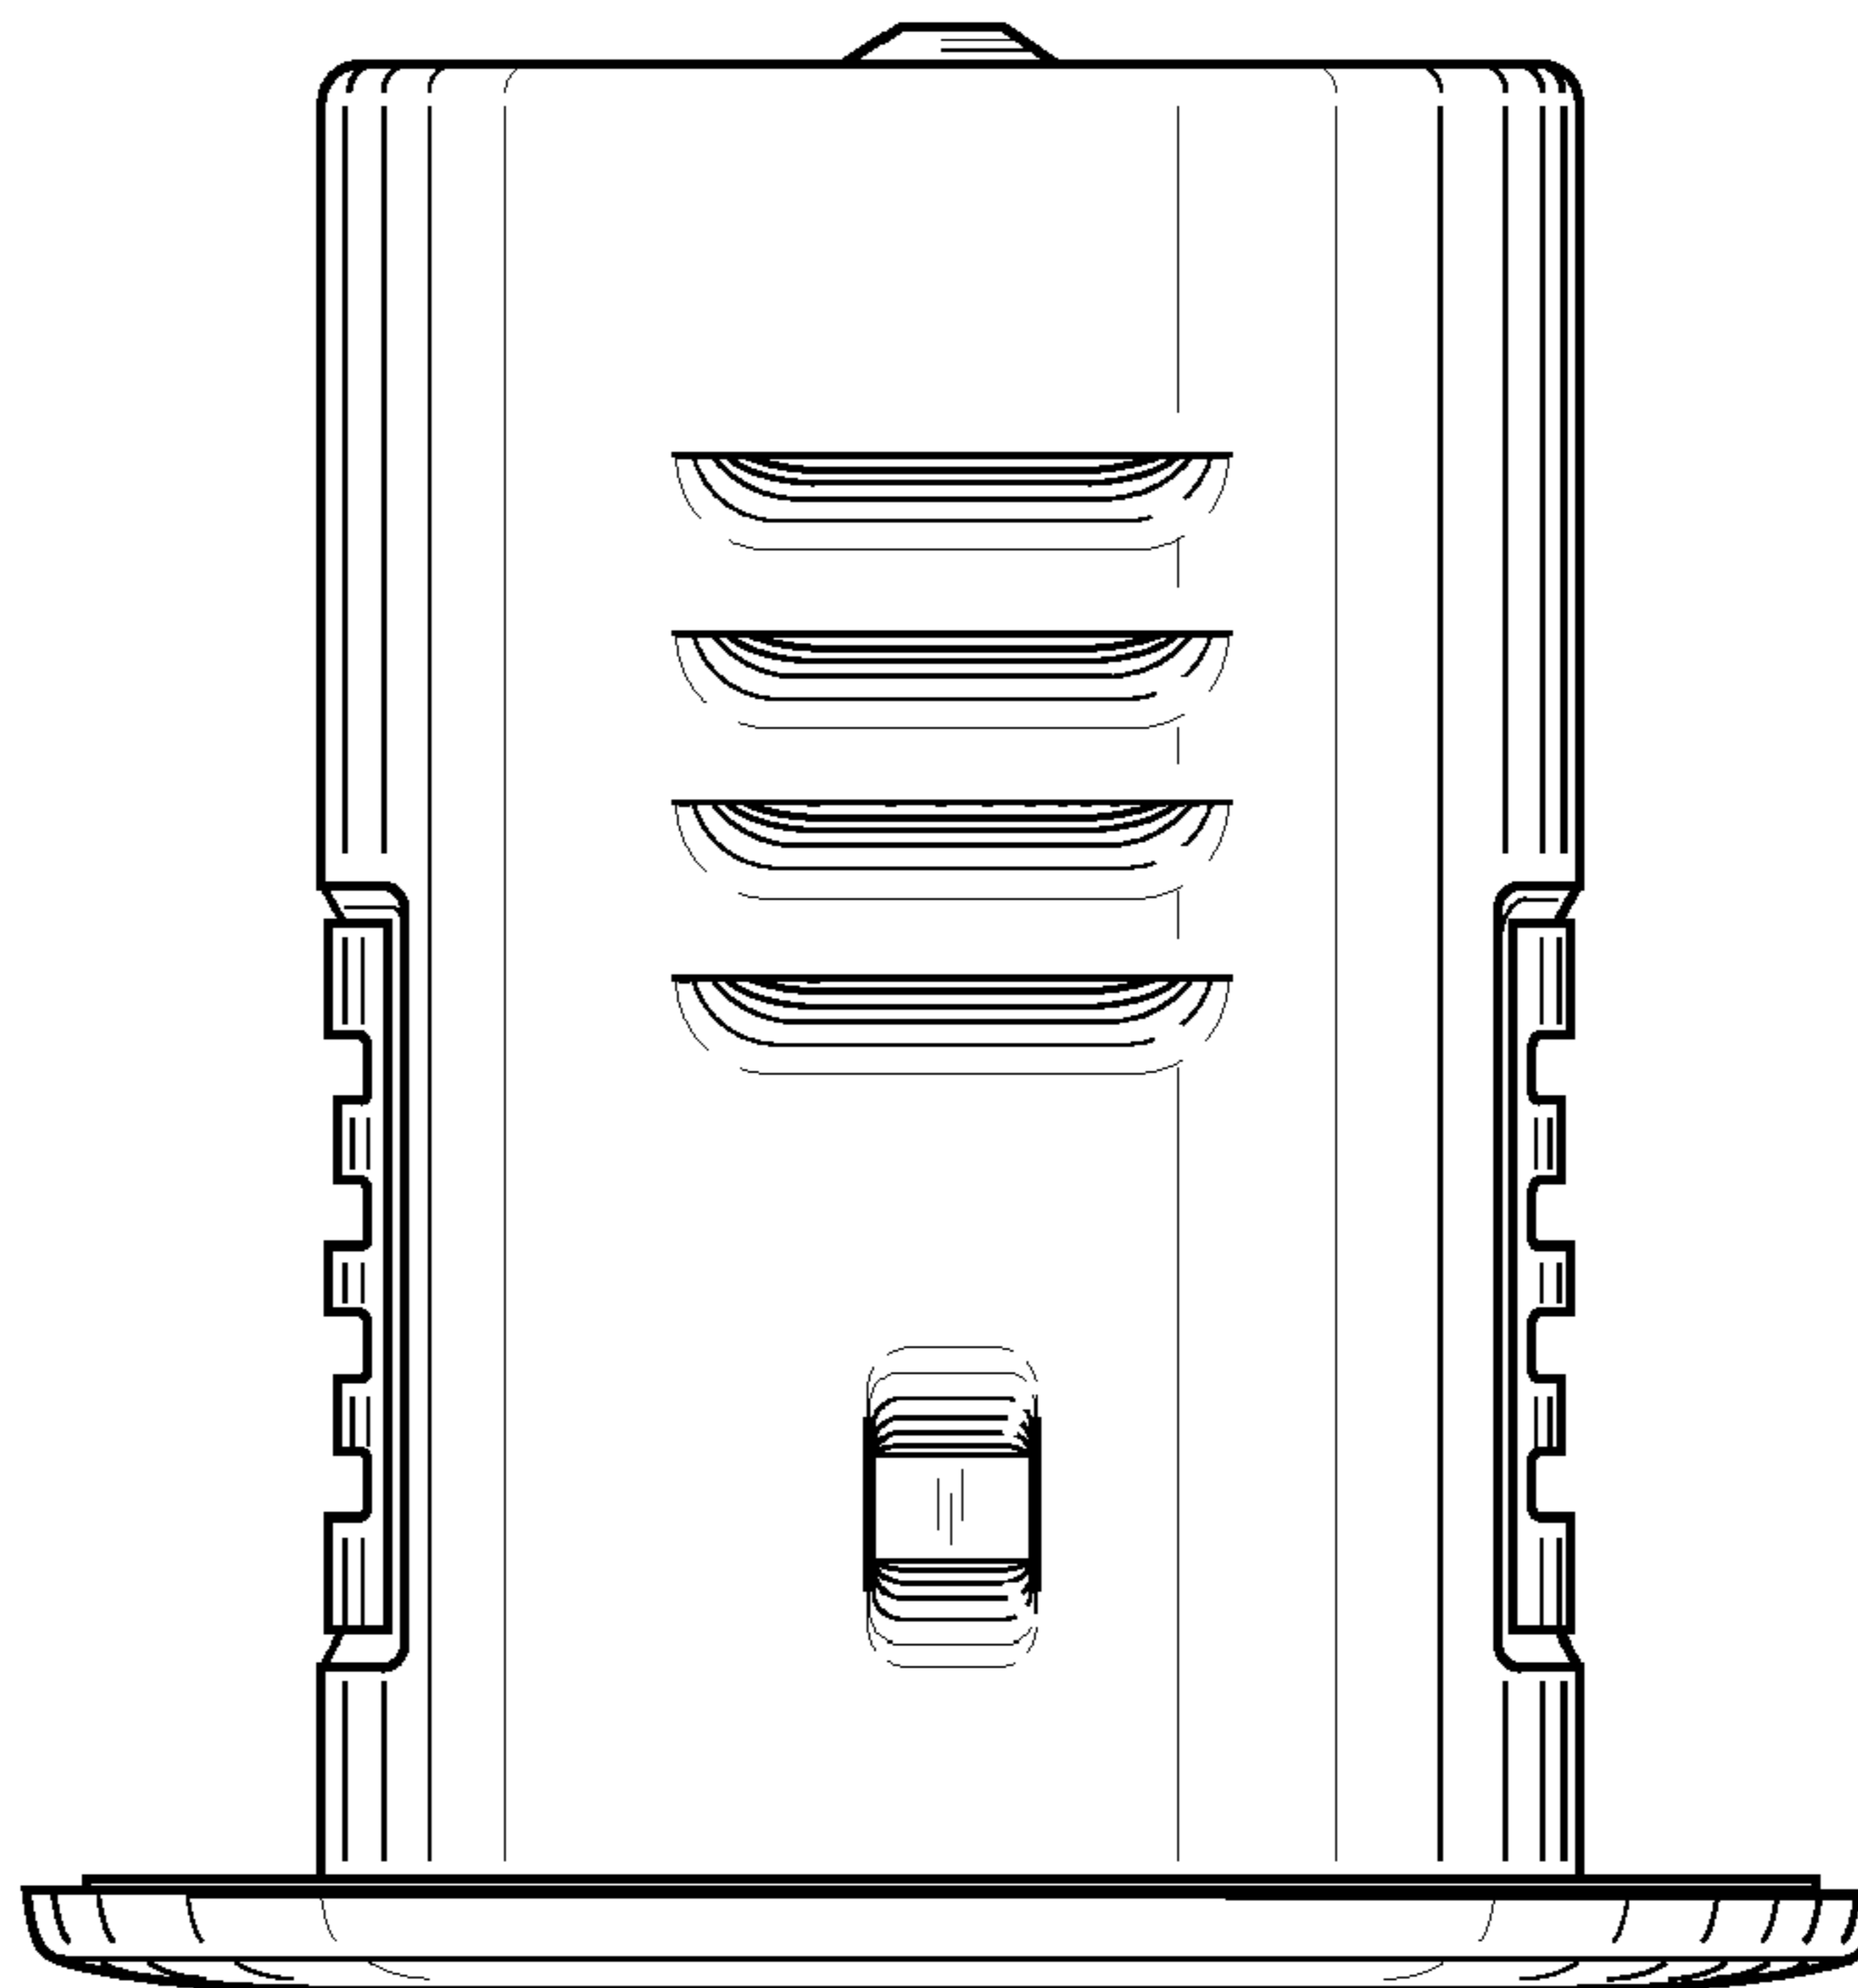

FIG. 4
- FIG. 4 is a side view showing one side of the lighting fixture;